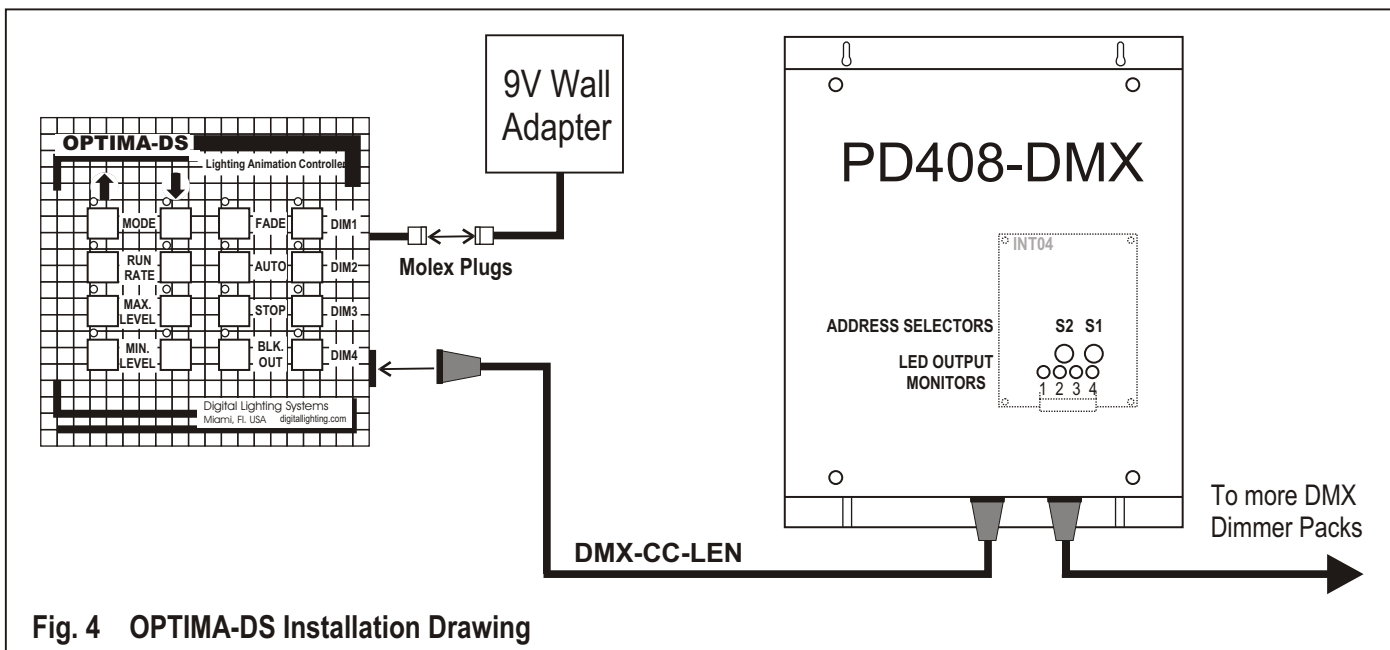

Fig. 4 OPTIMA-DS Installation Drawing
D - Installation Instructions (See Figs. 4 & 5 below).
1. Install the OPTIMA in a convenient location. Fig. 4 shows an OPTIMA-DS which has a female XLR connector mounted on the side of its aluminium enclosure. OPTIMA-DS2 models are mounted in deep single gang masonry boxes and have a female XLR connector mounted externally (See Fig. 5 below).
The OPTIMA panels use a standard 5-Pin Female XLR connector to connect to DMX equipment as seen in Figs. 4 & 5. They are also available on request with an unterminated pigtail that plugs into the back of the unit so that customer may make their own DMX connections or with a pre-terminated cable with XLR connector to the customer's desired length (J8FXLR5-L). An external transformer supplies power via a 2-pos. Molex type connector.